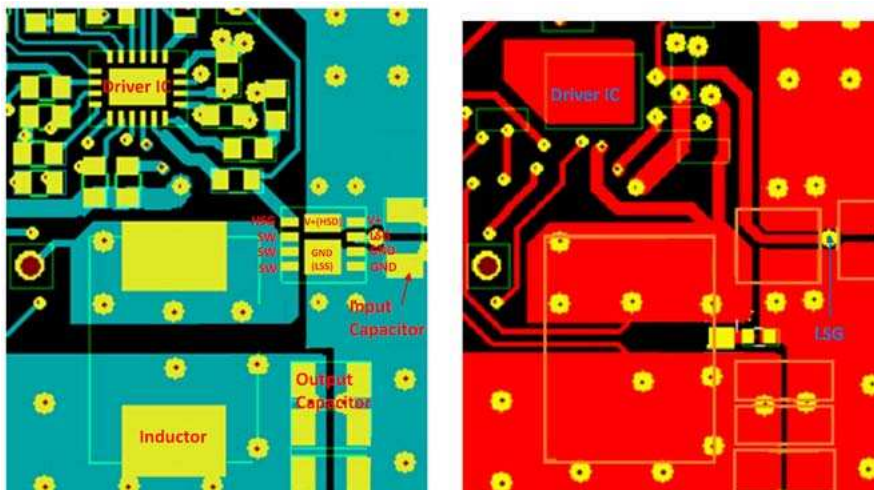

Figure 3. Top/Component (green) View and Bottom (red) PCB View
Figure 3 shows an example of a well designed layout. The discussion that follows summarizes the key features of this layout.
- "The SW to inductor copper trace is a high current path. It will also be a high noise region due to switching voltage transients. The trace should be short and wide to enable a low resistance path and to minimize the size of the noise region. Care should be taken to minimize coupling of this trace to adjacent traces. The layout in Figure 3 shows a good example of this short, wide path.
- "The Power Trench® Technology MOSFETs used in the Power Clip are effective at minimizing SW node ringing. They incorporate a proprietary design1 that minimizes the peak overshoot ring voltage on the switch node (SW). They allow the part to operate well within the breakdown voltage limits. For most layouts, this eliminates the need to add an external snubber circuit. If the designer chooses to use an RC snubber, it should be placed close to the part between the SW pins and GND / GND (LSS) PAD to dampen the high frequency ringing.
- "The Power Clip has very good Junction-PCB heat transfer from all power pins. It has much better heat transfer Junction-GND (LSS) than traditional dual FET packages. In most cases, board ground will be the most effective heat transfer path on the PCB. Use a large copper area between GND / GND(LSS)PAD pins and board ground. To ensure the best thermal and electrical connection to ground, we recommend using multiple vias to interconnect ground plane layers as shown in Figure 3.